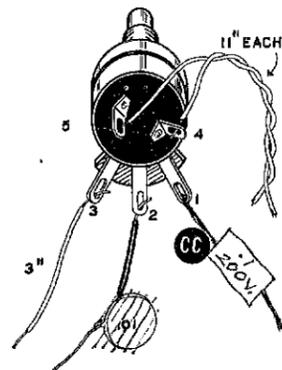
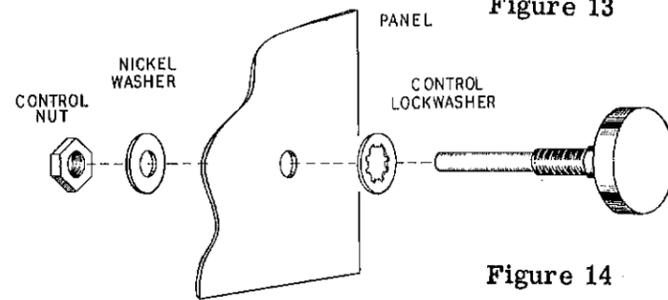
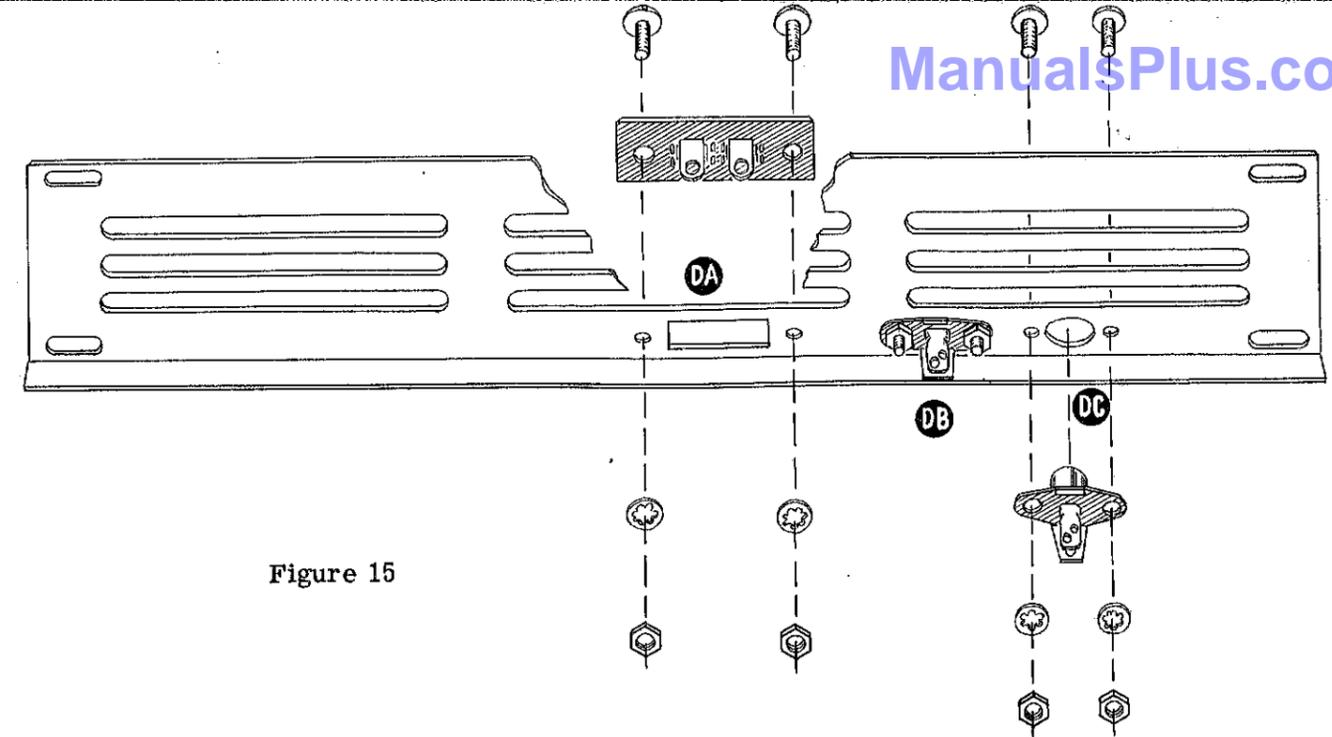

Figure 13
Figure 14
Figure 15
- () Prepare the volume control CC as shown in Figure 13. Slip sleeving over one lead of a .01 μ fd disc condenser and connect this lead to CC2 (S) (1). Do not cut away any of the leads.
- () Cut a wire to a length of 3", strip and tin both ends and connect one end to CC3 (S) (1).
- () At one end of this cable, connect one lead to control switch terminal CC4 (S) (1) and the remaining free end to CC5 (S) (1).
- () Place a large lockwasher over the control shaft and temporarily install the control through the openings provided in the dial plate and right end bracket. See Figure 14. Tighten the control in place with lugs 1, 2 and 3 pointing straight down over socket F.
- () Pass the twisted leads from CC4 and CC5 through chassis grommet L and dress along the center of the chassis as shown in Pictorial 2. Connect one lead to terminal strip AB2 (S) (2) and the remaining lead to AB3 (NS).
- () Run the free end of the lead connected to terminal strip T2 to control lug CC1 (S) (1).
- () Pass sleeving over the free lead of the .01 μ fd disc condenser connected to CC2 and connect this end to socket G6 (S) (2).
- () Connect the lead from CC3 to terminal strip T1 (S) (4).
- () Slip a 3/8" rubber grommet over the line cord and pass the cord through grommet BA in the left end bracket from the outside. DO NOT forget the grommet on the line cord. Tie a knot approximately 5" from the end for strain relief. Connect one line cord lead to terminal strip AB1 (S) (2) and the remaining lead to AB3 (S) (2).
- () Identify the antenna coil, which is wound on a 2 watt resistor and has a 10 μ fd condenser connected across the resistor. Cut both of the resistor leads to a length of 1 1/4". DO NOT cut the twisted leads. Note that the coil with the twisted leads is nearer one end of the resistor. Connect this end to terminal strip AA1 (S) (2), which is the grounded end, and the end furthest from the coil to AA3 (S) (2). The coil assembly must stand straight up, vertical in respect to the chassis, with the twisted leads in line, also vertical to the chassis.
- (✓) Mount the 2-lug screw type terminal strip at location DA on the back panel with 6-32 hardware. Note that the strip mounts on the outside, or painted side of the panel as shown in Figure 15 on Page 23.
- (✓) Install a phono connector at DB on the rear panel with 6-32 hardware. Note that these connectors are installed inside the panel as shown in Figure 15. The ground lug should be nearest the panel flange.